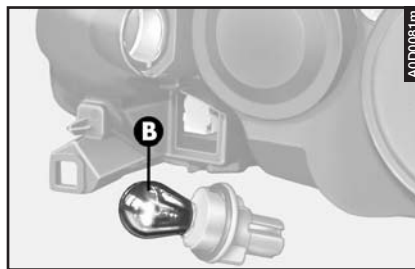

fig. 49
- Remove the bulb (**B- fig. 49**) from the bulb holder, pushing it slightly and turning it counter-clockwise.